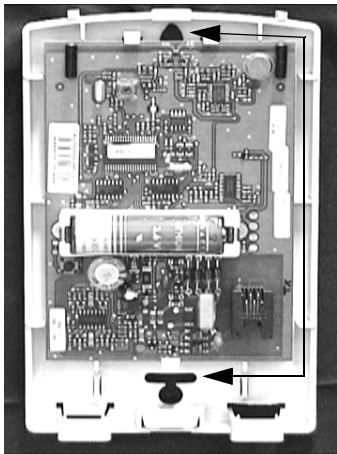

Figure 3. Mounting Hole Locations
1. With the cover off, place the DTIM at the desired location and mark the mounting holes (see Figure 3 at left).